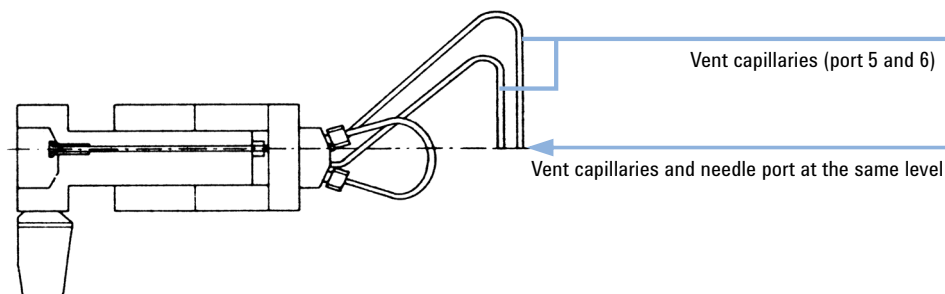

Figure 1 Vent Capillaries
- ✓ The outlets of the two vent capillaries (ports 5 and 6) and the needle port must be at the same level to prevent siphoning (see Figure 1 on page 8).